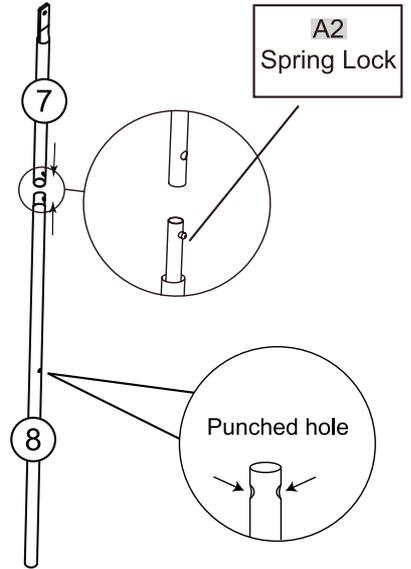

FIG. 3
5. Attach Tube 5 and Tube 6 (#5 & #6) together using spring lock (pre-installed) as shown in FIG.3.
⑤		X 1
⑥		X 1